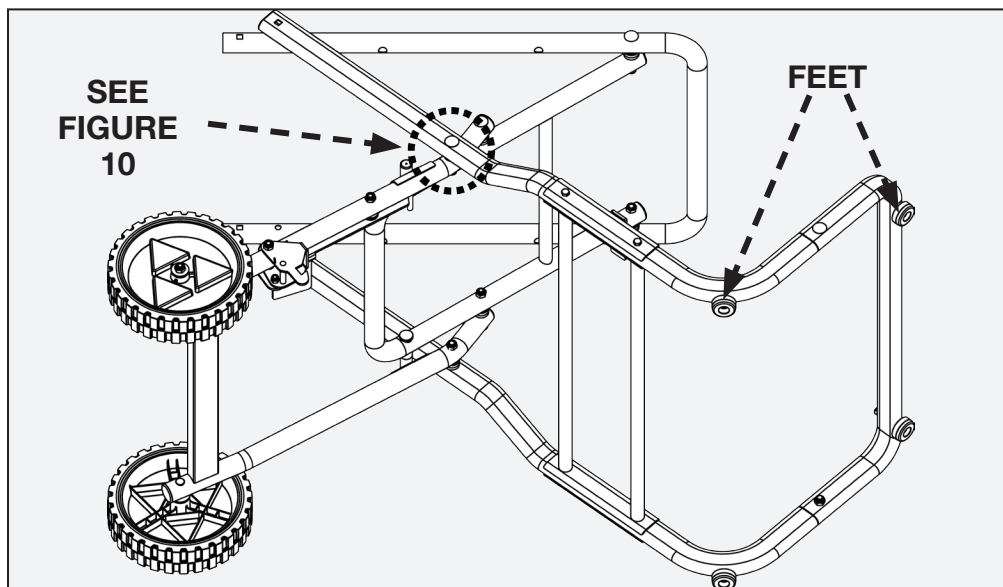

FIGURE 11
Place the sides of the support rod assembly (E & F) so they are outside of the pedal assembly (D) and the feet are pointing down. See Figure 11 for correct position of the feet.